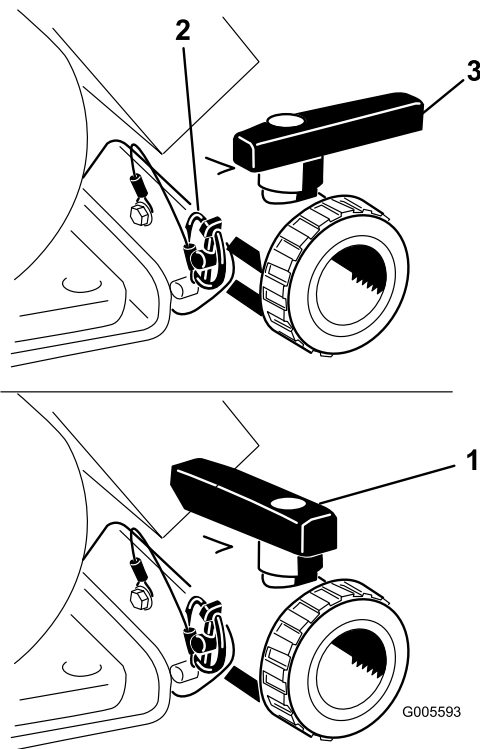

Figure 21
Open the valve to drain any unused material from the tank and dispose of it according to local codes and the material manufacturer's instructions (Figure 21). After draining, remove the lynch pin on the bracket securing the drain valve to the machine and let the valve rest on the ground. This allows any residual material in the line to drain.
- When the tank has drained completely, install the valve to frame with the lynch pin removed previously and close the drain valve (Figure 21).